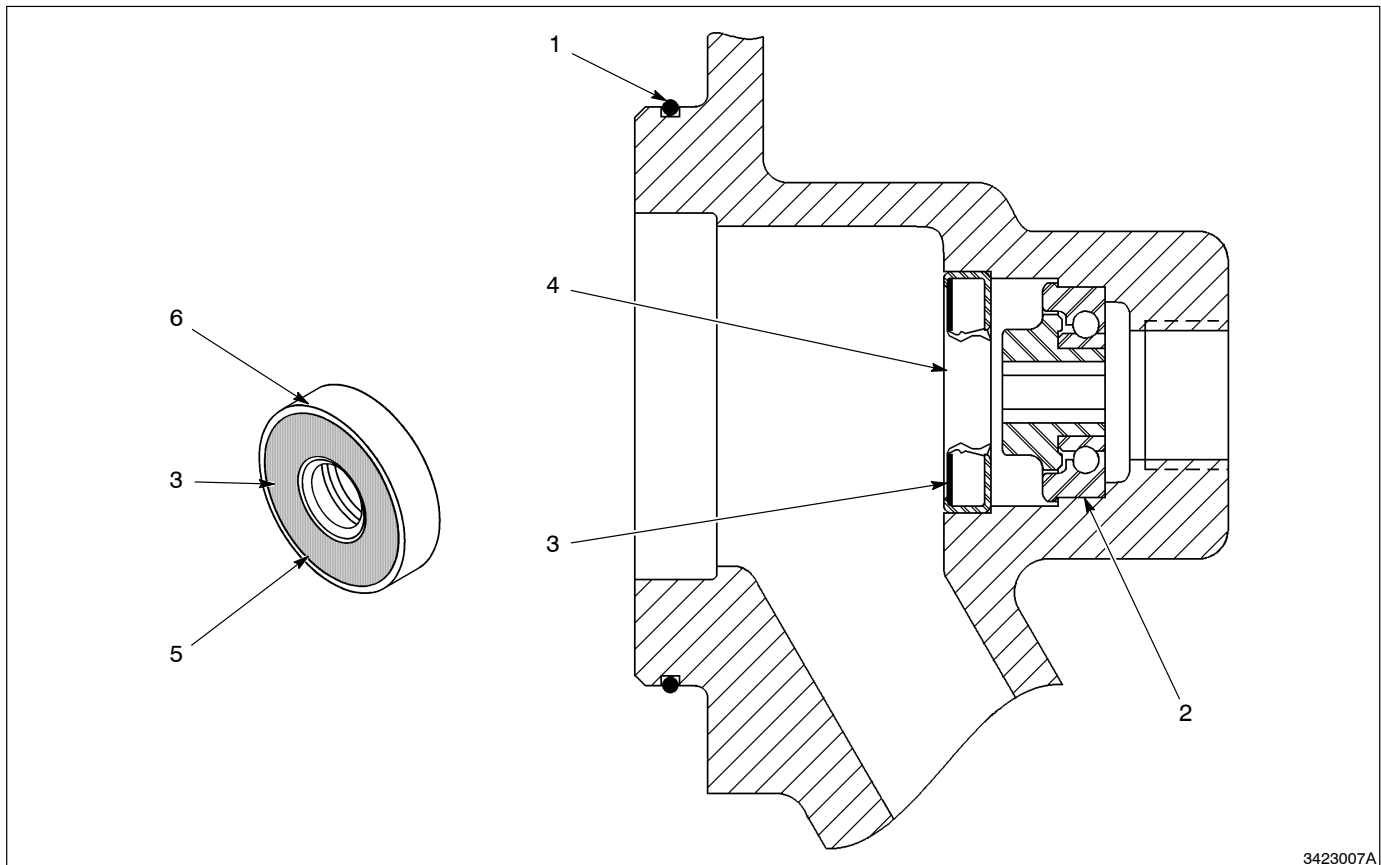

Fig. 7 End Cap
1. See Figure 7. Remove the bushing and elbow from the end cap. Place the end of the end cap on the arbor press. Carefully press out the bearing and seal.
2. Carefully press a new bearing (2) into the sieve housing.
3. Fold the lip (5) away from the shield (3) and remove the spring from the seal, if present. Press the new seal assembly into the end cap. The side of the seal with the shield must face away from the bearing.